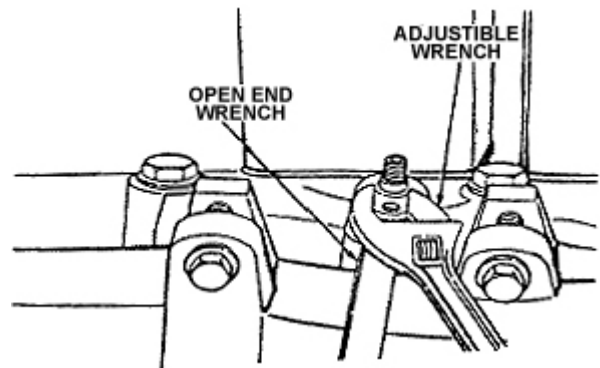

Fig 3: Loosening injector
- 6: Hold the injector body with one wrench while removing the injector nut with another. (Fig. 3)